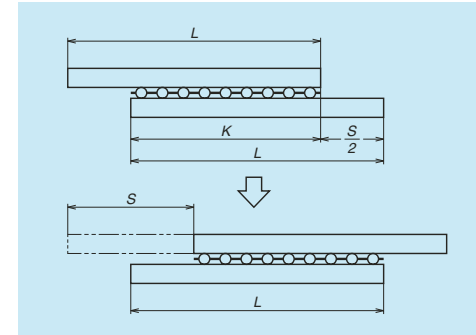

Fig. 9 Relationship of rail and retainer
The retainer does not detach from the rail when condition in Formula (5) is satisfied (Refer to Fig. 9).